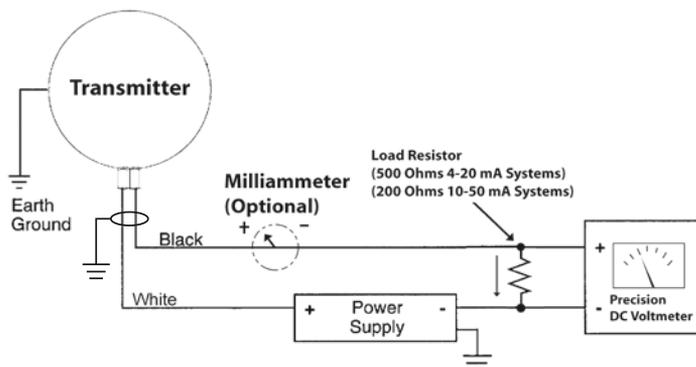

Figure 3.3—Electrical connections for calibration
2. Connect the electrical readout device to the transmitter as shown in Figure 3.3 for either current or voltage readout. If the transmitter is equipped to an EGS Quick Disconnect connector assembly, secure the two mating connectors with the bayonet ring (see page 25 for details).
3. Connect the electrical readout device to the transmitter as shown in Figure 3.3, page 18, for either current or voltage readout. If the transmitter is equipped to an EGS Quick Disconnect connector assembly, secure the two mating connectors with the bayonet ring (see page 25 for details).